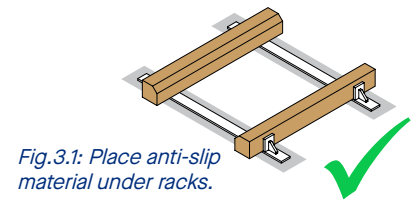

Fig.3.1: Place anti-slip material under racks.
- ✓ Use anti-slip matting or strips of anti-slip material to cover a minimum of 90% of the underside of every coil rack. **No Steel on Steel contact.** (Fig.3.1)